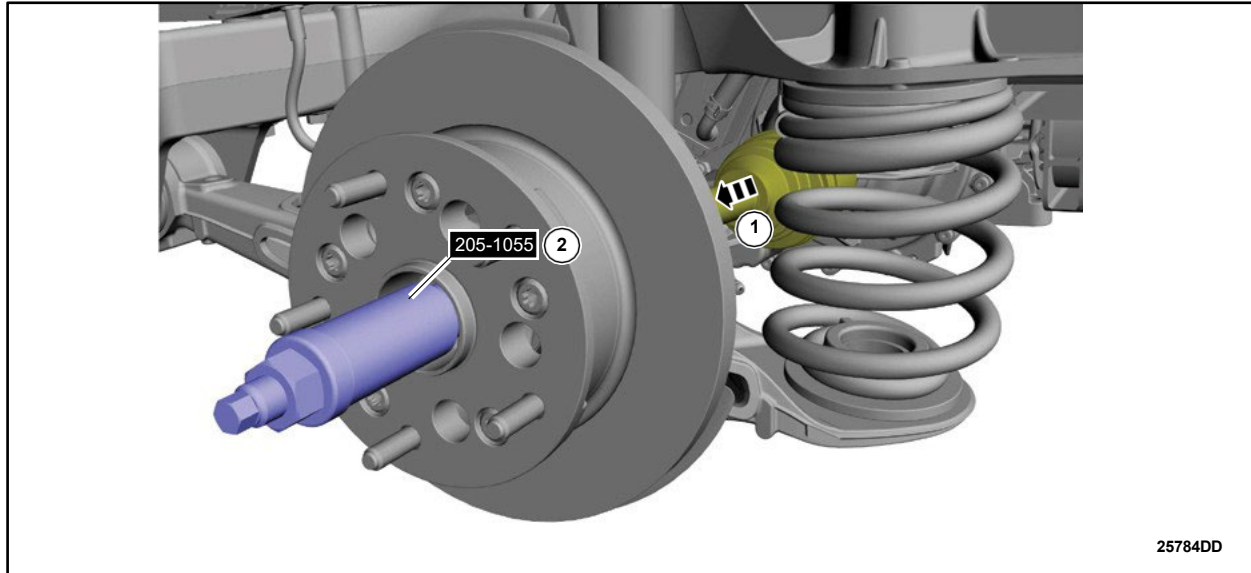

FIGURE 36
40. As needed, if installing a *new* halfshaft, complete the following steps: See Figure 36.